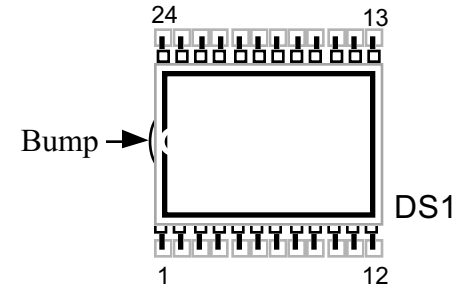

Figure 5-8
- ☐ Remove the LCD from its packing materials, being careful not to bend the pins. As shown in Figure 5-8, the pin 1 end of the LCD glass has a very slight bump, along with a break in the black border. This end will be oriented towards the pin 1 end of DS1's component outline.